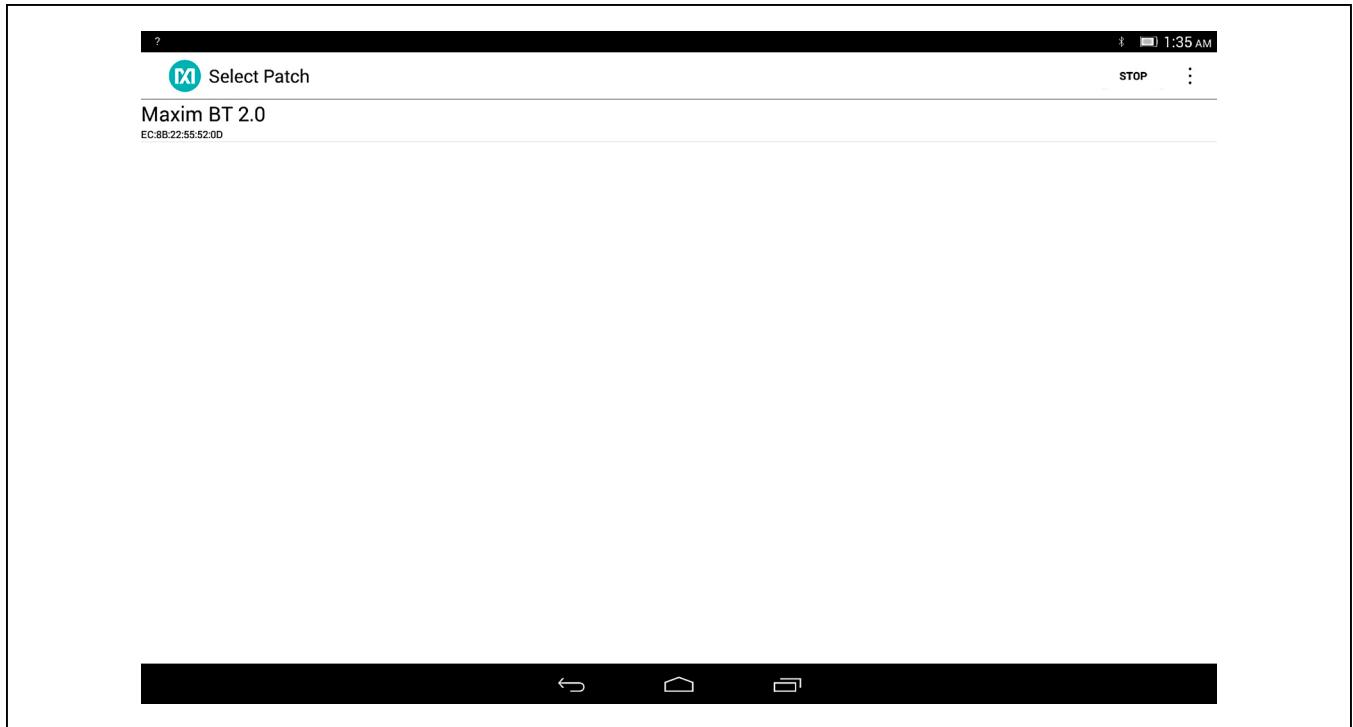

Figure 5. Bluetooth Pairing Interface
- 6) Then, you will need to connect to the BLE EV KIT Hardware. Do this by selecting the “Maxim BT 2.0” that shows up upon opening the android application (Figure 5).